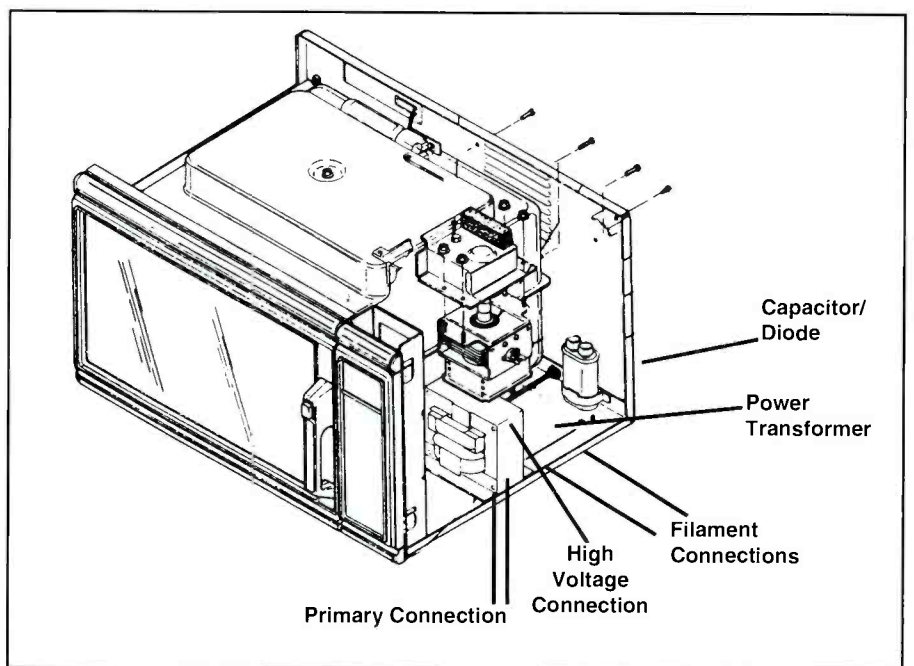

Figure 7. Power supply assembly
duces the high voltage and filament voltage for the magnetron tube operation. Figure 7 shows a typical microwave oven power supply assembly.
**Figure 7.** In this schematic drawing of a sample auxiliary power supply circuit, the +12Vdc, +24Vdc, +25Vdc, and -27Vdc supplies are scan-rectified while the +185Vdc, the overvoltage sensing voltage, the focus voltage, and the 25kV CRT anode voltage are retrace-rectified voltages.